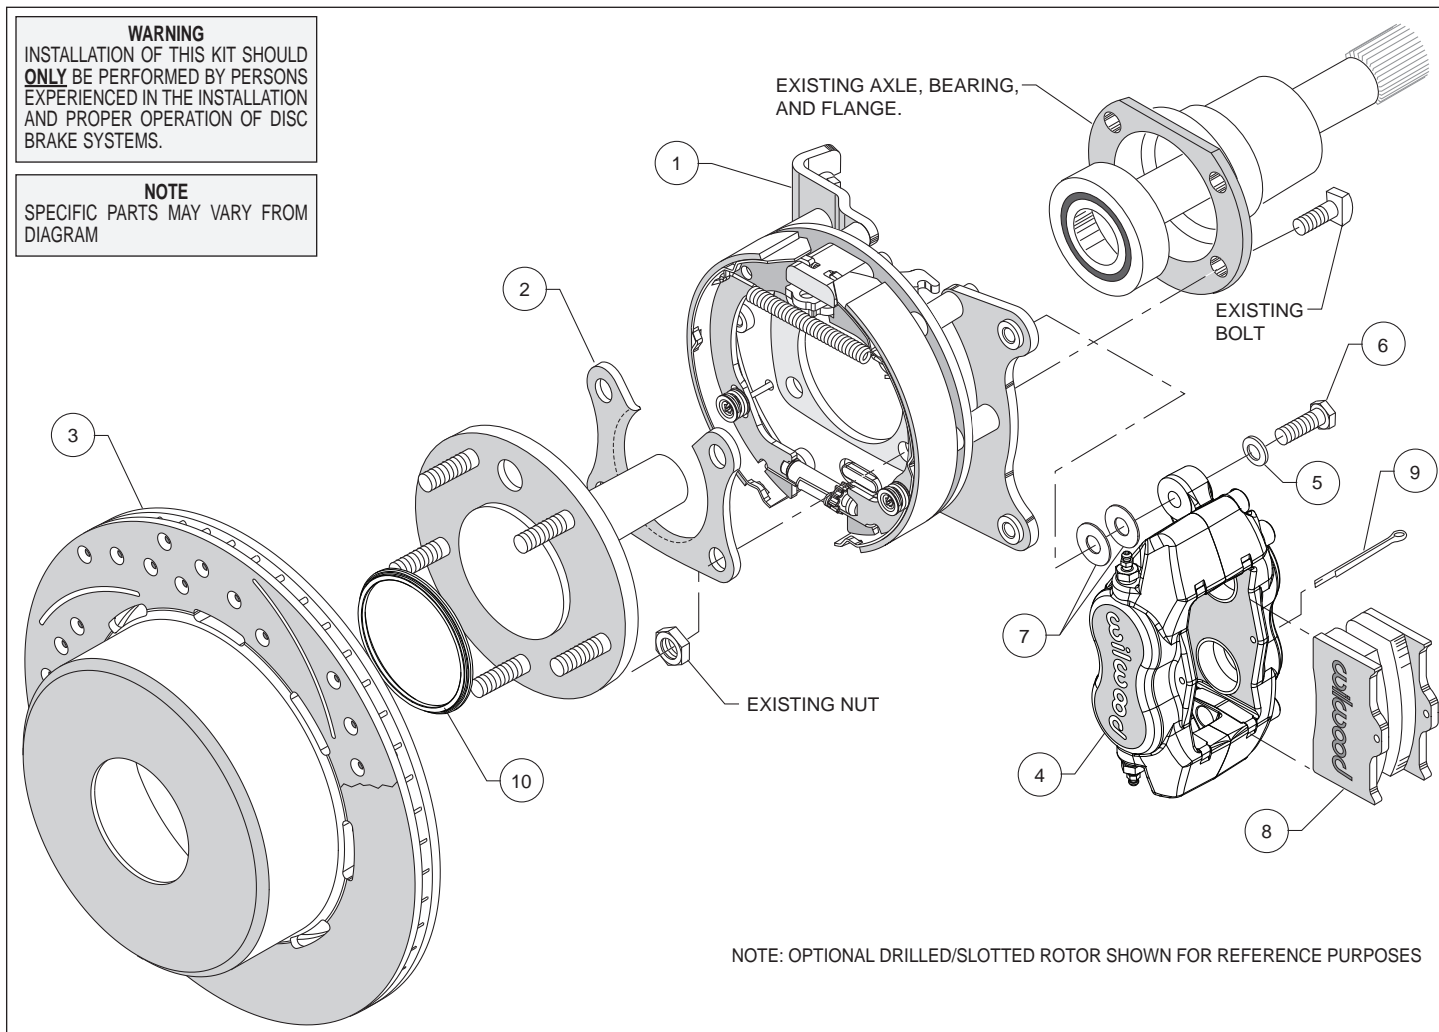
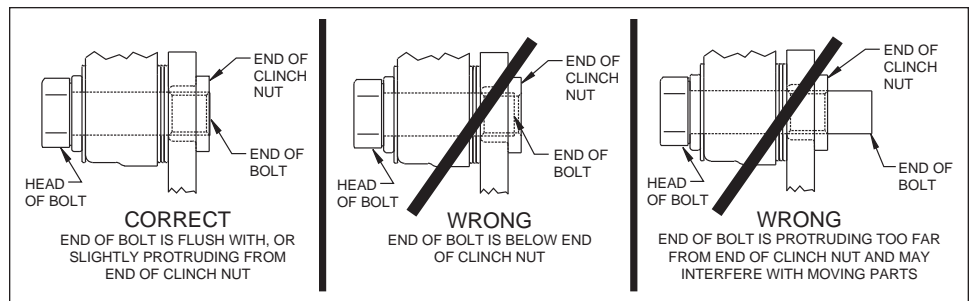

Figure 1. Typical Installation Configuration
Figure 5. Clinch Nut Engagement Diagram
Assembly Instructions (numbers in parenthesis refer to the parts list, and Figure 1 on the preceding pages): **CAUTION:** All mounting bolts must fully engage clinch nuts. Be sure to check that all bolts are either flush or protruding through flanged side of clinch nut after shimming, Figure 5.
- Orient the bracket assembly (1) as shown in Figure 1 and Photo 1 and slide it onto the axle. Insert the axle and bracket into the axle housing. Ensure that the bracket assembly backing plate fits flush against the axle housing flange.
- Install the bearing retainer (2) with the opening pointing upward and the lip facing inward (toward the bearing), as shown in Figures 1 and 4, and Photo 2. Secure retainer and bracket assembly to the axle housing flange using the Original Equipment Manufacturer (OEM) bolts and nuts, Figure 1. Apply red *Loctite*® 271 to the OEM bolt threads and torque to OEM specifications.
- Slide the rotor registration adapter (10) onto the axle register on the axle flange with the smaller O.D. facing toward the rotor/hat (3), Photo 3. **NOTE:** Verify axle stud size and patten. Then have a qualified machine shop drill the bolt circle of the hat/rotor to the correct stud size and pattern. Slide the hat/rotor into place, Figure 1 and Photo 4. **NOTE:** The rotor/hat must fit flush against the axle flange or excessive rotor run out may result. Install three lug nuts (finger tight) to keep the rotor/hat assembly in place while continuing with the installation.
- NOTE:** Please reference the caution statement at the beginning of the assembly instructions. Mount the caliper (4) onto the caliper mounting bracket (1) using bolts (6) and washers (5), as shown in Figure 1. Initially place two .035" thick shims (7) on each bolt between the caliper and the bracket, Photo 5. Temporarily tighten the mounting bolts and view the rotor (3) through the top opening of the caliper. The rotor should be centered in the caliper, Photo 6. If not, adjust by adding or subtracting shims between the bracket and the caliper. Always use the same amount of shims on each of the two mounting bolts. **NOTE:** The end of each bolt must be flush with or slightly protruding from the head of the clinch nut, as shown in Figure 5. If necessary place spare shims between washer (5) and caliper mounting ear to achieve the proper clinch nut engagement. Once the caliper alignment and clinch nut engagement are correct, remove the bolts one at a time, apply red *Loctite*® 271 to bolt threads, and torque to 40 ft-lb.